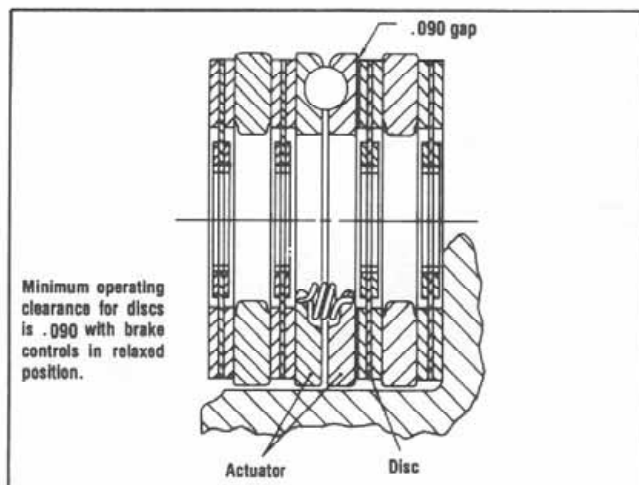
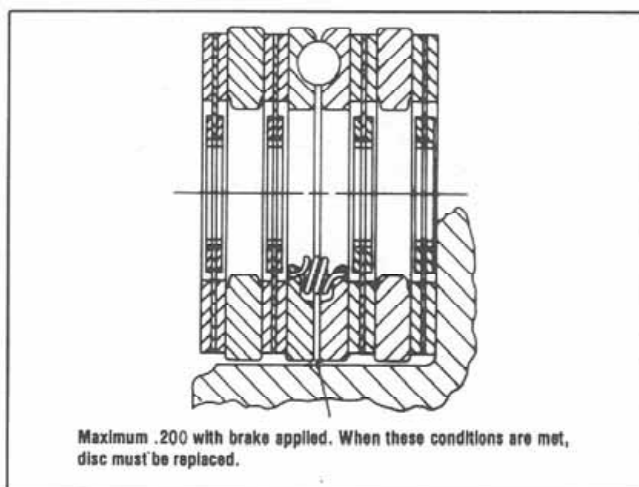
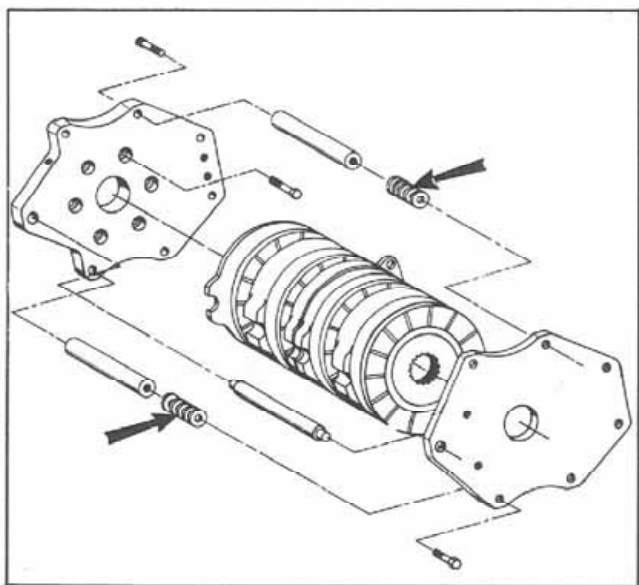

Figure 15:
Figure 16:
Figure 17:
16. If the brake assembly were left off prior to reinstallation of the transfer case, install and adjust it at this time. After installing the outside brake plate and brake lever bracket, adjust the actuator linkage if necessary to give a minimum disc clearance of .090 inches (2.28 mm), with the brake in the OFF position (Fig. 15). If the actuator cap exceeds .200 inches (5.08 mm), with the BRAKE APPLIED (Fig. 16), either replace worn brake discs or remove shims between the outer brake plate and brake support pins (Fig. 17). When new discs are installed, also add the shims required.